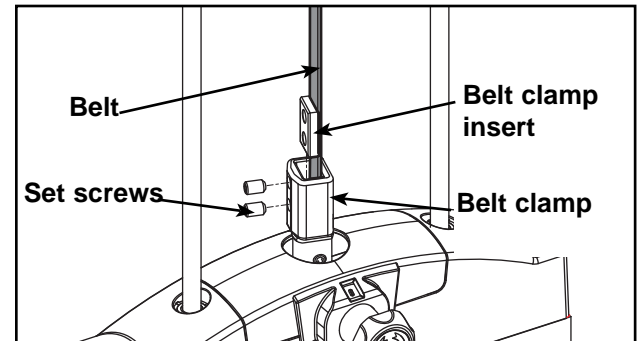

Figure 11
- E. Pull belt tight and secure belt to clamp with the two set screws. **NOTE:** Torque set screws 300-350 in./lbs. See Figure 11.